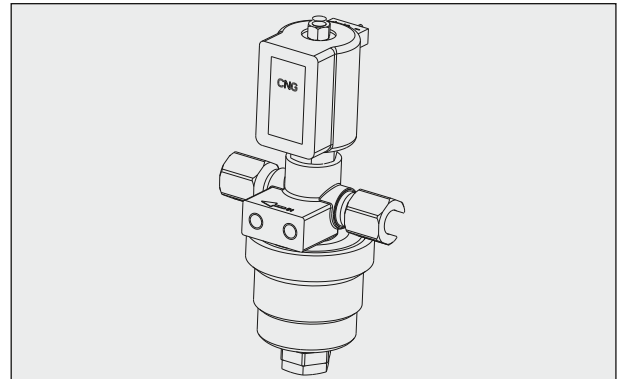

Fig. 6.74
- Connect the multimeter '+ve' probe of the multimeter to the Red (R) wire and '-ve' probe of the multimeter to the Black with white tracer (BW). Measure the resistance. (Fig. 6.74)